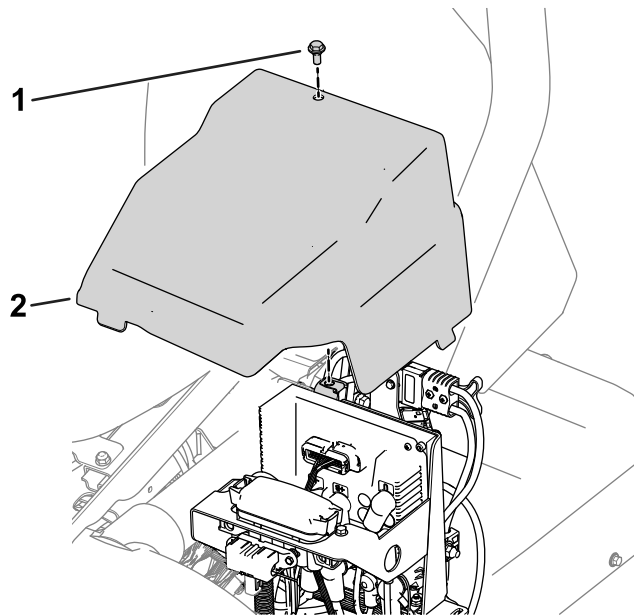

Figure 34
1. Remove the left side cover from the machine (Figure 34).
5. Install the left side cover (Figure 34).